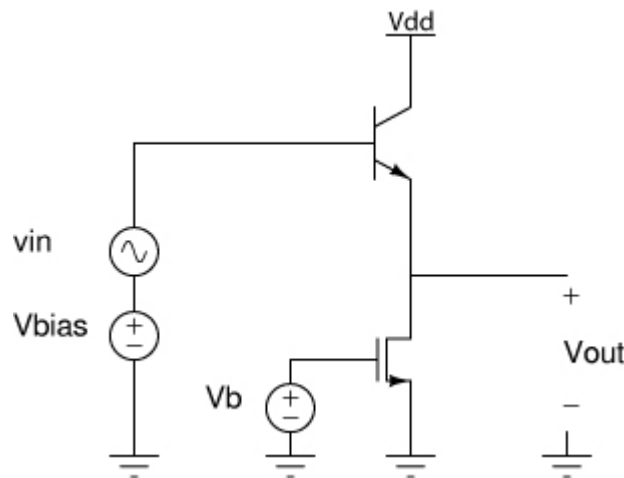

Figure 1: Common collector amplifier with NMOS current source
In this assignment you will characterize both an npn-BJT and an NMOS transistor, and use the measurements to design a common collector (emitter follower) amplifier with an NMOS current source, shown in Figure 1. In the design, you will choose the bias voltage V_B of the NMOS current source and the DC bias voltage, V_{BIAS} , in order to meet the following specs. The low power supply voltage found in today's portable electronics makes for challenging circuit design. The voltage gain, input resistance, and output resistance specs must be met for all values of the output voltage swing, $0.3V \rightarrow 1.2V$. You will find that the amplifier specifications are easy to meet nominally, but are difficult to achieve at the edge of the voltage swings due to the decrease in device output resistance.
1) **(20 points)** (Small Signal - 20 points) To help you determine the bias voltages, for the amplifier circuit of Figure 1, write down the equations for the DC voltage gain (A_{vo}) and the input and output resistances (R_{in} , R_{out}) in terms of the parameters derived from the measurements (g_m , r_{oBJT} , r_{oMOS} , r_π). Do not make simplifying assumptions (i.e. include effect of r_o)